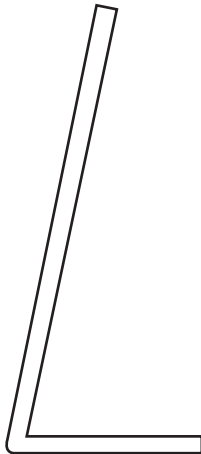

Fig. 3
- (e) Fig. 3 shows a side view of one of the display stands. Use sketches and notes to design a jig to allow each of 50 display stands to be bent into the correct shape.